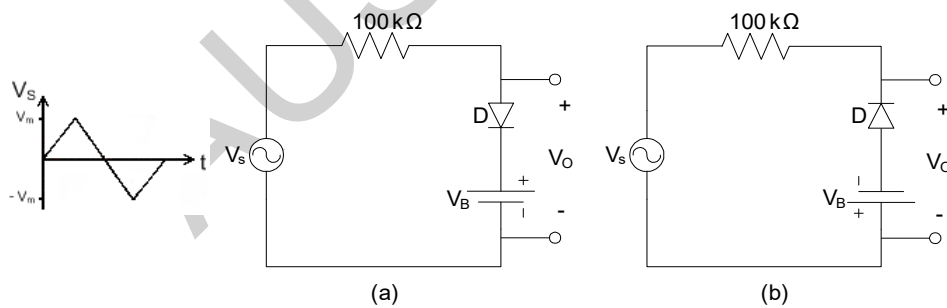

Figure 3.7: Experimental Circuit 2.
3. Do the same as in step 1 and 2 for the circuits in figure 3.7 with  $V_s$  wave shapes as drawn beside each figure having  $V_m = 5$  volts. Parallel Branch 1 of circuit of figure 3.7(a) and Branch 2 of circuit of figure 3.7(b) and observe output.